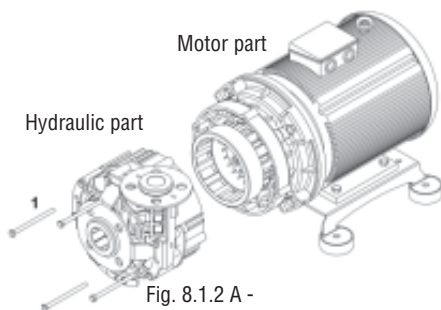

Fig. 8.1.2 A - First step of disassembling sequence
- Unscrew the connections (Fig. 8.1.2 A, Pos. 1) as described in the spare-parts list and remove the hydraulic parts from the motor parts.